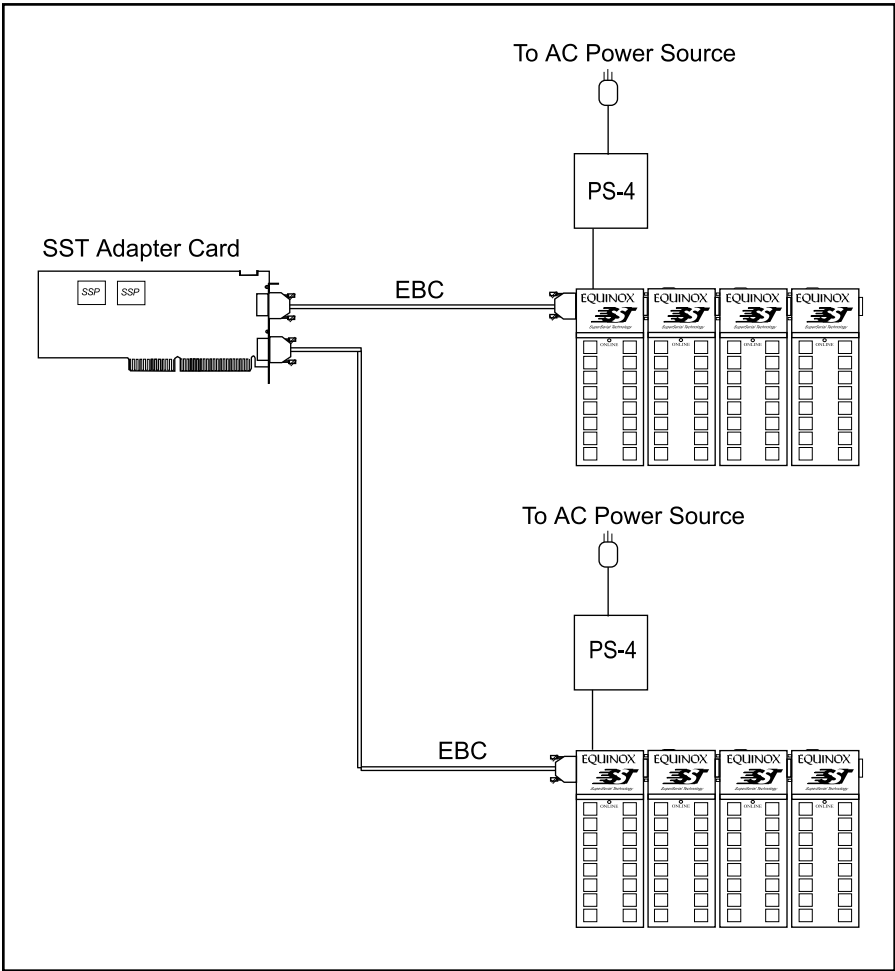

Figure 1-11. Maximum Number of Ports Per Adapter Card (128)
Figure 1-11 illustrates a *SuperSerial Subsystem* using the maximum number of ports (128) for an Adapter Card.